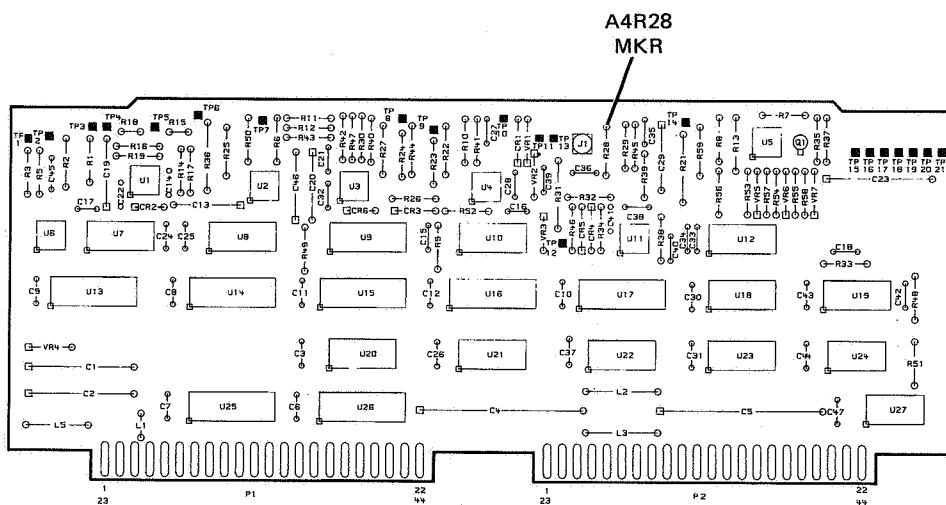
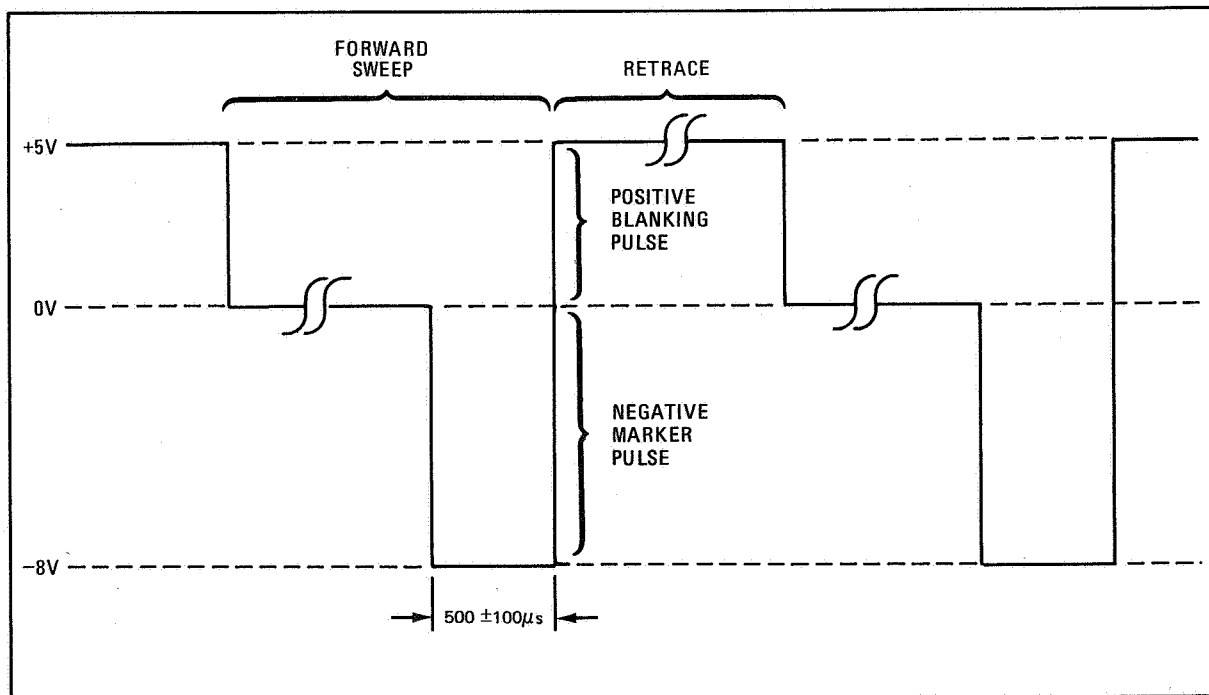

Figure 5-19. Location of Marker DAC Adjustment
Figure 5-20. Marker DAC Adjustment Waveform
- Adjust A4R28 MKR counterclockwise for a counter reading of  $500 \pm 100$  us. This sets the width of the -8 volt marker pulse as shown in Figure 5-20. Refer to Figure 5-19 for adjustment location.